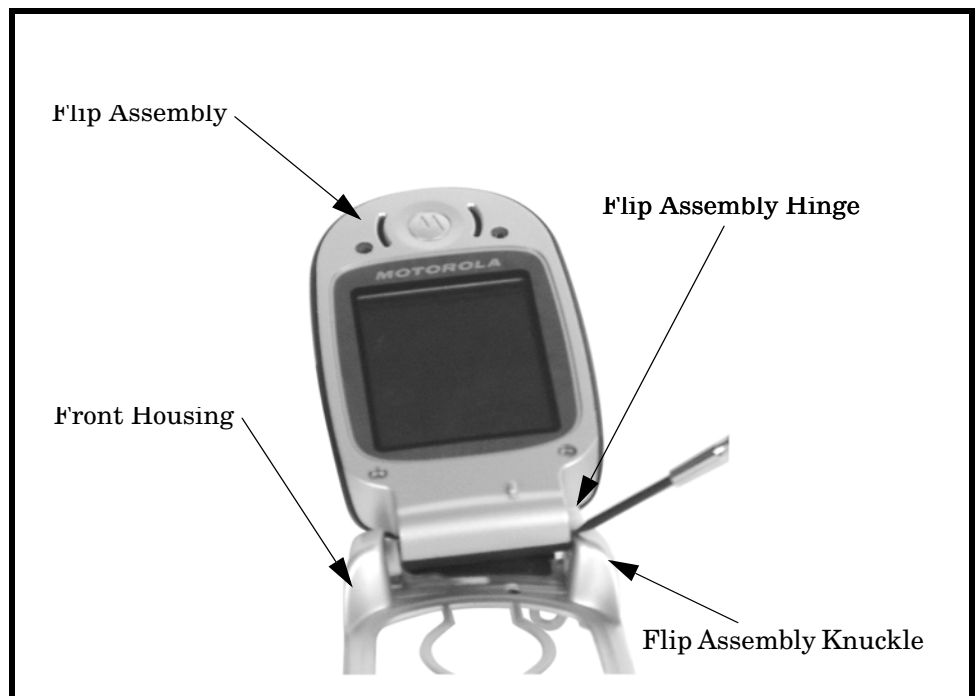

Figure 12. Removing the Flip Assembly
3. Carefully and gently bend the front housing knuckle away from the flip assembly hinge to separate the flip assembly from the front housing as shown in Figure 12.